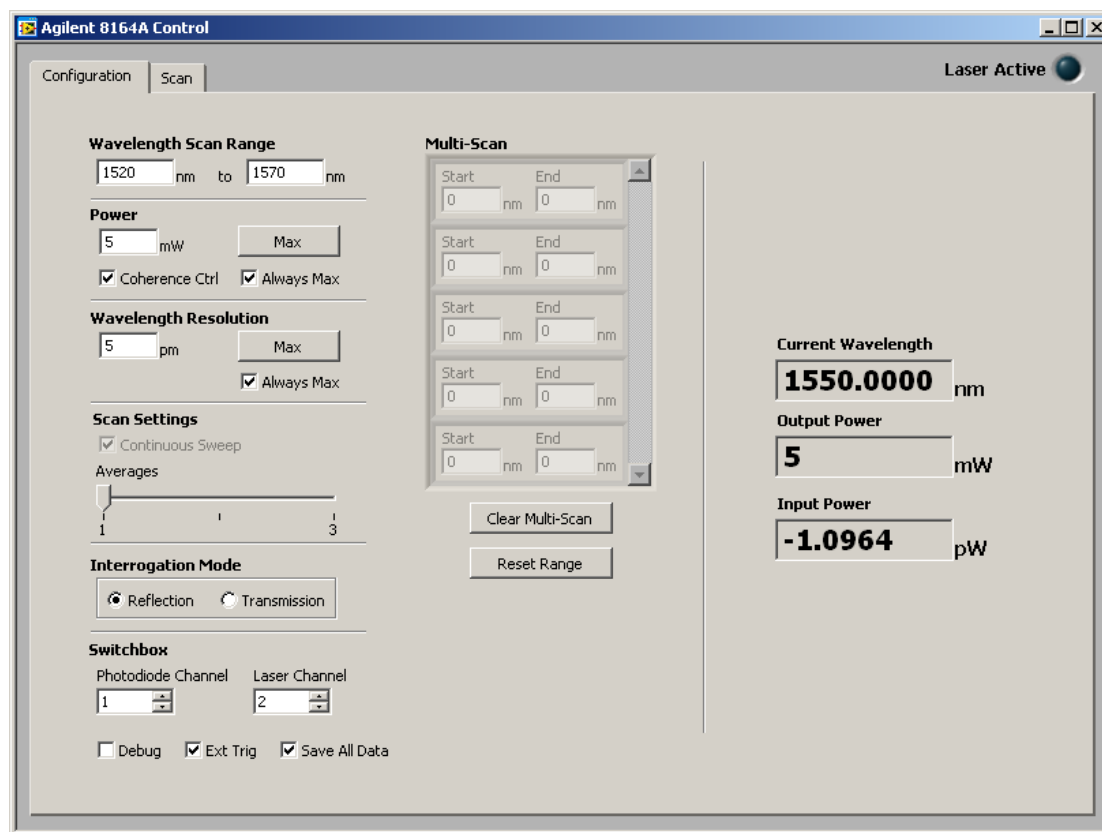

Figure 3.13.1: Configuration window on Agilent 8164A control software
1. Click on the Configuration tab of the window shown in Figure 3.13.1